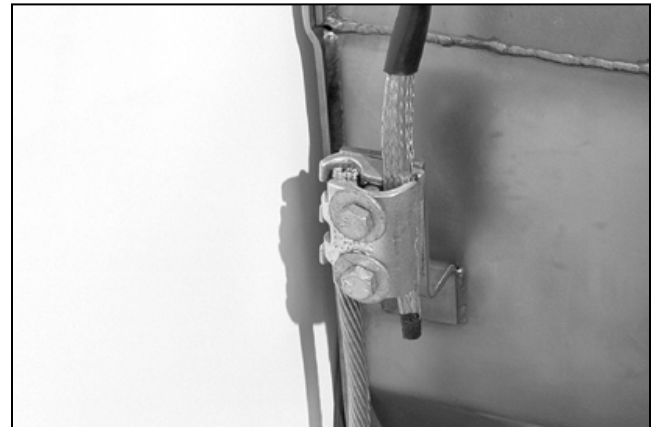

Figure 82. Connect shielded cable to tank ground.
- STEP 2.** Connect the ground pad of the tank to the system ground facility in accordance with the user's standard grounding practice. See Figure 82.
- STEP 3.** Connect the heavy-shielded cable tails from each of the main cables to the tank ground pad using the clamshell connector provided. The shortest possible connection should be made. There is one heavy-shielded cable tail per motor operated way. See Figure 82.